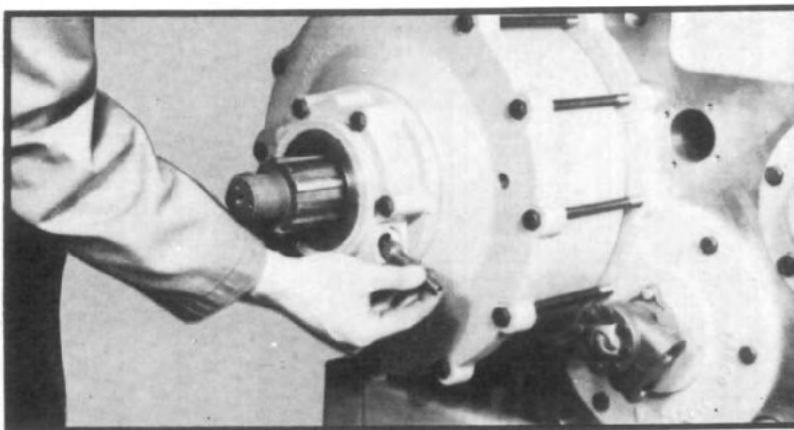

Fig. 159
- 3.30 Install speedometer drive gear into seal carrier to mesh correctly with drive gear. (See fig. 159.)